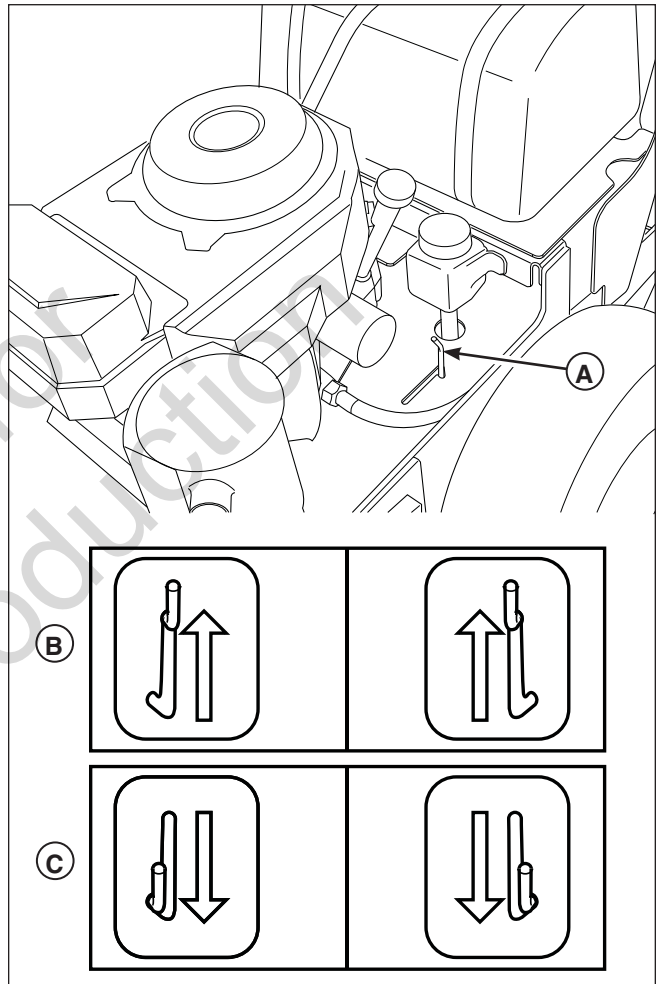

Figure 3. Transmission Release Levers (LH Shown)
2. Locate the transmission release levers (A, Figure 3) by the rear wheels of the unit.